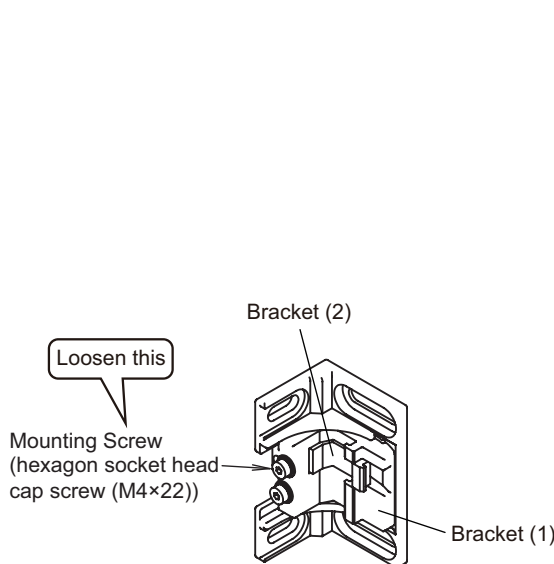
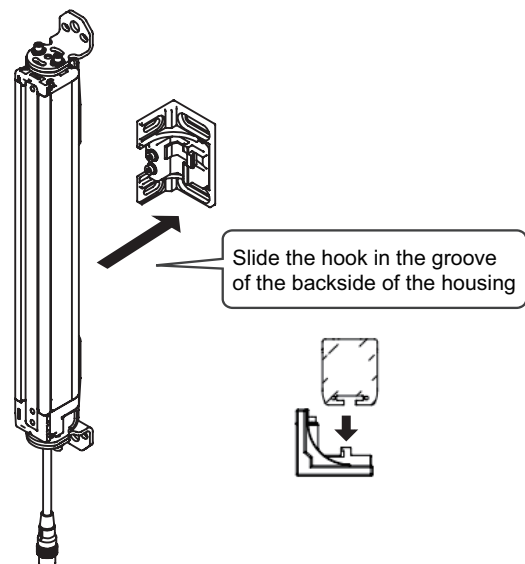

Fig. 4
Fig. 5
- Fully loosen the Mounting Screw (hexagon socket head cap screw (M4×22)) of the Intermediate Bracket. (Fig. 4) Then slide the hooks of the Brackets (1) and (2) in the groove of the backside of the F3SG-R housing. (Fig. 5)